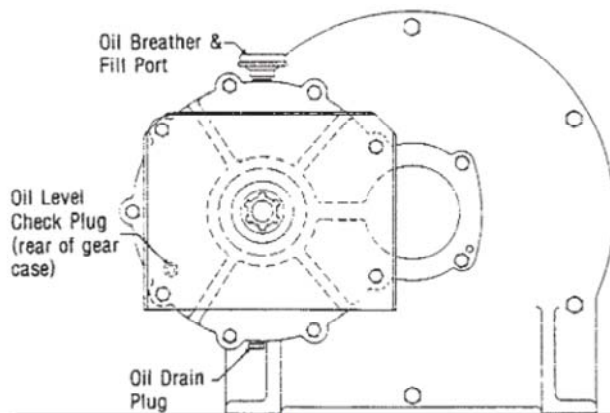

Figure 6
2. Check gear case oil level. (See Figure 6.) Case should be filled with oil to plug marked "OIL LEVEL." Fill or remove oil as required.